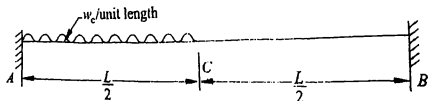

Figure 7
17. Determine the collapse load in a fixed beam of span L carrying uniformly distributed load over one-half of span as in Figure 7. The plastic moment capacity is M_p throughout.